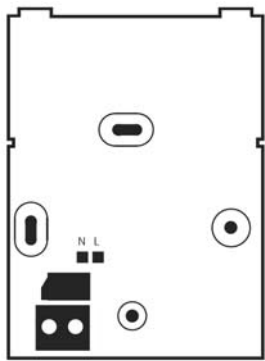

Fig.3
- Connect the two supply wires to the corresponding Neutral and Live terminals in the base Fig.3